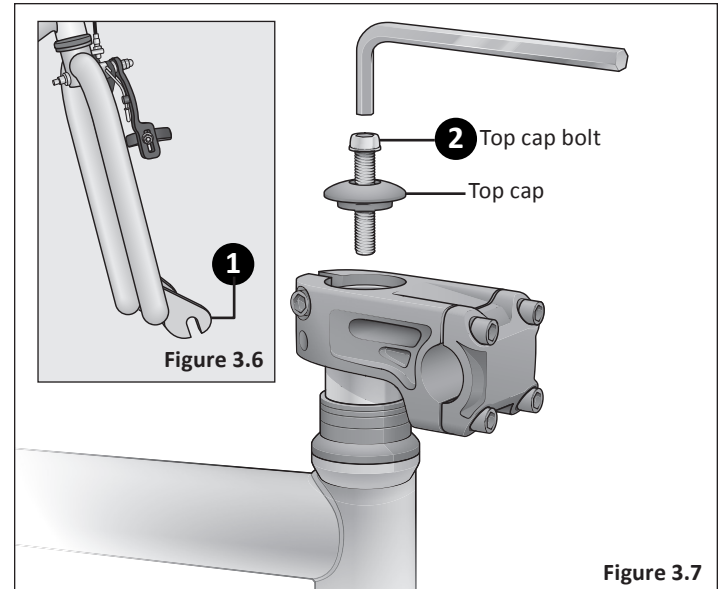

Figure 3.7
- 2 Using a 5 mm Allen wrench loosen the top cap bolt on the steerer tube and remove the top cap and bolt. **Important! Do not** remove the spacers. **Figure 3.7**